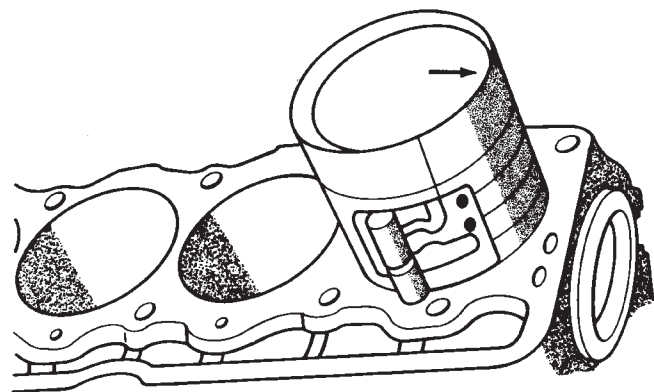

Fig. 59 Rod and Piston Assembly Installation
(4) Use a piston ring compressor to install the connecting rod and piston assemblies through the top of the cylinder bores (Fig. 59).
(5) Ensure the arrow on the piston top points to the front of the engine (Fig. 59).